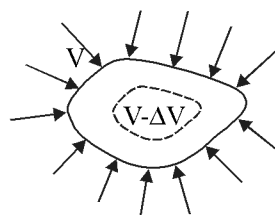

Fig. 5.3
- Volumetric stress:** When the same pressure or force per unit area is acting at each point of the body normally then force per unit area is called volumetric stress or also called pressure. When pressure on a body is increased from P to $(P + \Delta P)$ the volume of the body decreases from V to $(V - \Delta V)$ as shown in (Fig.5.3). Change in pressure ΔP is the force per unit area due to which volume of the body changes.